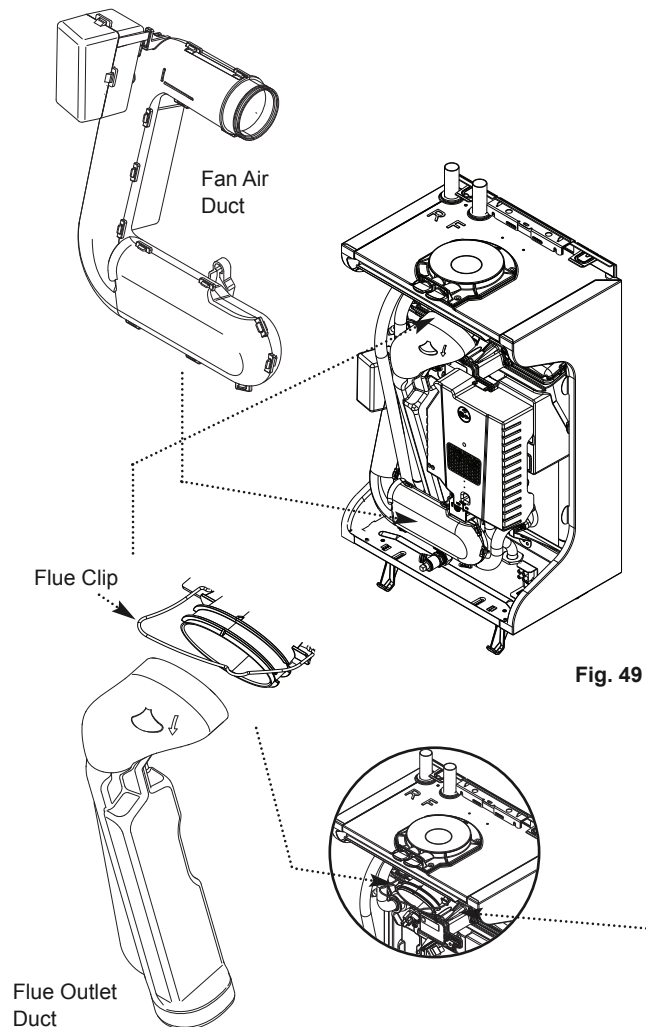

Fig. 49
10.3.4 Removal of Ducts (Fig. 49)